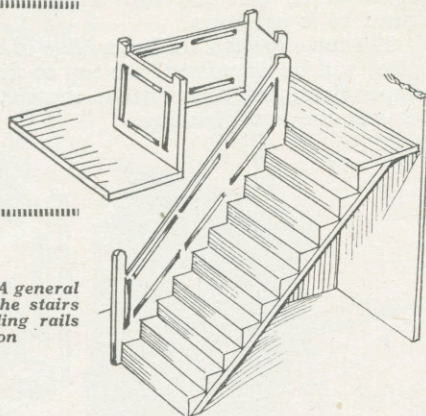

Fig. 1.—A general view of the stairs and landing rails in position
The sketch (Fig. 1) gives an idea of the finished staircase, the end wall of the house being removed to show its construction.
the short flight of steps. It can be clearly seen in the sketch Fig. 1.
The various brake wheels are obtainable from Merco, and are very tiny, exactly to scale for the purpose. They can be soldered to common lengthy pins in the manner shown in Fig. 1 (G). The pin is pushed through the hole in the wheel and through a piece of cardboard, is arranged to project at exactly a true angle, and the wheel touched with spirits and solder.
The buffers are also soldered into holes drilled in the buffer beams, exactly in place, their centres 14 mm. above the rail. If Lanal couplers are desired, the loco type should be used, these being soldered to the beam. The hook can be pivoted to a pin soldered to the two floors. For jacks, use some bogie blocks of the largest size, sweating these on the four corners of the crane wheel-frames, as shown in Fig. 1 (F) and (H).
The work of building up the jib was done on the piece of stripwood, which should be of $\frac{1}{2}$ in. by $\frac{1}{2}$ in. section, and the cross-pieces were soldered on in the manner shown in Fig. 1 (B), being afterwards trimmed clean. In (A) is shown the method of forming metal girder-work generally, this time the card strip is laid flat.
The crutch can be made in the manner shown in Fig. 1 (D) very simply. Here, there is employed for the purpose, part of a white metal toy wheel taken from a broken Britain's farm toy.